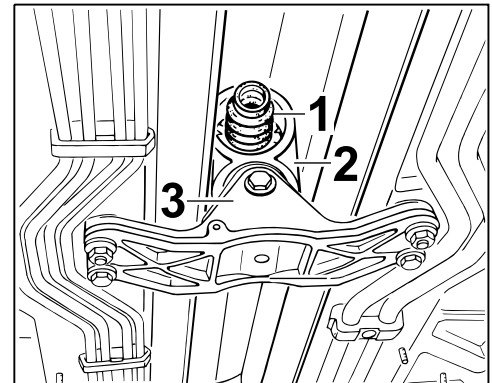

Figure 4
1.3.5 Pull bellows off the central shaft (⇒ *Figure 4*).